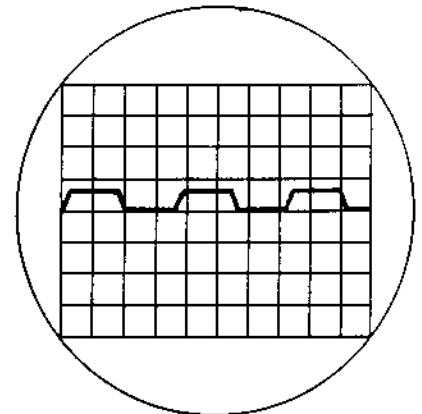

Fig. 11
11. Select **volts/power** **400Hz filter** and **sine wave** input at a **frequency** of 1 KHz and adjust **oscillator level** for 100W output. Select **1 Ω load**. The output should clip equally on both halves of the waveform as shown in Fig. 11.